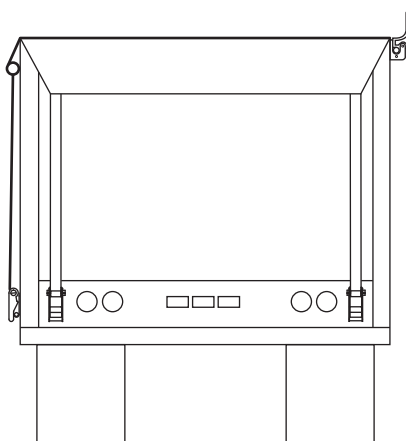

Figure 10
- 1) Figure 10.** Locate and secure ratchets as done in Step 5b to secure front flap and rear tail of tarp when in use.